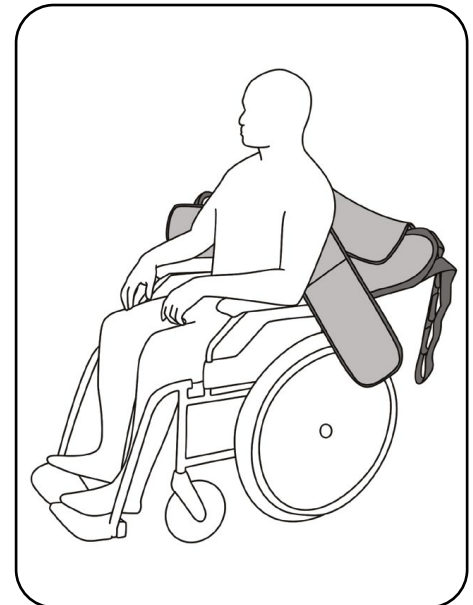

Fig. 9.3.02 – Open hoist sling behind the patient's back
5. Slide the hoist sling behind the patient's back (Fig. 9.3.02). Ensure that the top edge of the hoist sling is level with the armpit area.
9. Slowly and carefully move the spread aks standing-up hoist towards the patient, taking care to avoid injuries caused by a collision. Pay attention to the lifting arm. Lock the brakes of the aks standing-up hoist (Fig. 9.3.02).